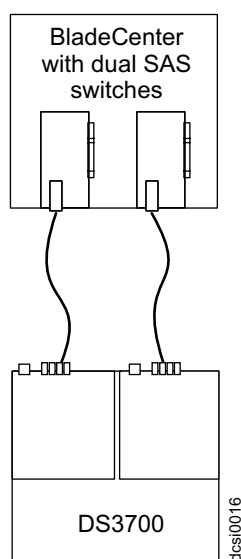

Figure 42. Example of DCS3700 connected to a single BladeCenter unit
2. To create a redundant host connection, connect a SAS cable from a second SAS connectivity module to a host connector on the other controller in the DCS3700. You can only create up to two redundant host connections in a dual-controller DCS3700, one connection each from the blade center to the DCS3700 controller host port as shown in Figure 42.